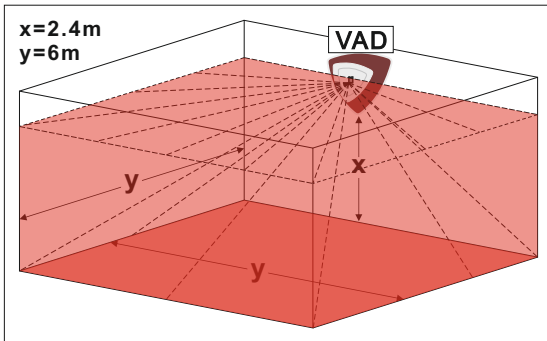

Figure 1 W -Wall Mounted Device
3. Use the supplied mounting parts to install the siren's base at a height of 2.4 metres from the floor (figure 1 on page 2). Place the plastic plugs and fasten the screws to the mounting holes. Attention!! Make sure that the siren's base is installed upwards as shown in figure on page 4.